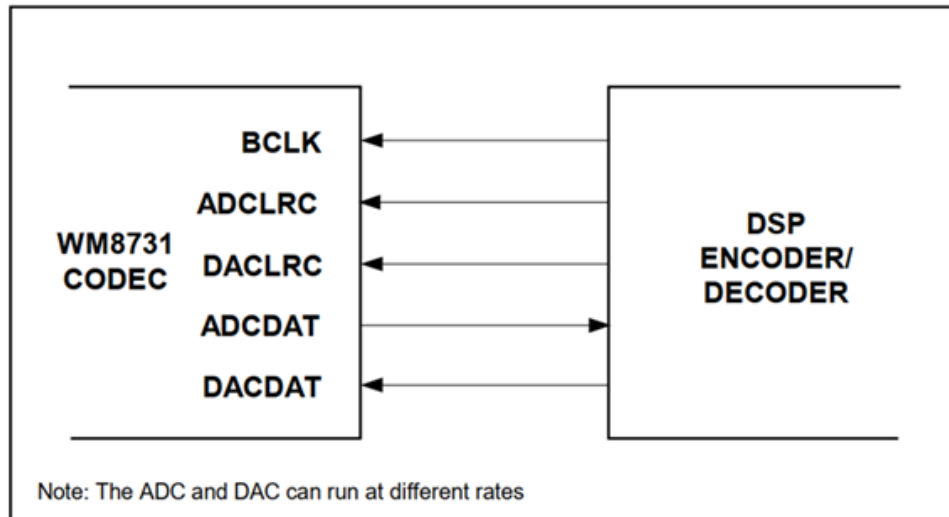

Figure 1.12: I²S slave mode.
- **Slave Mode:** When WM8731 operates in Slave mode, both BCLK and DACLRC are inputs, as shown in the figure 1.12.